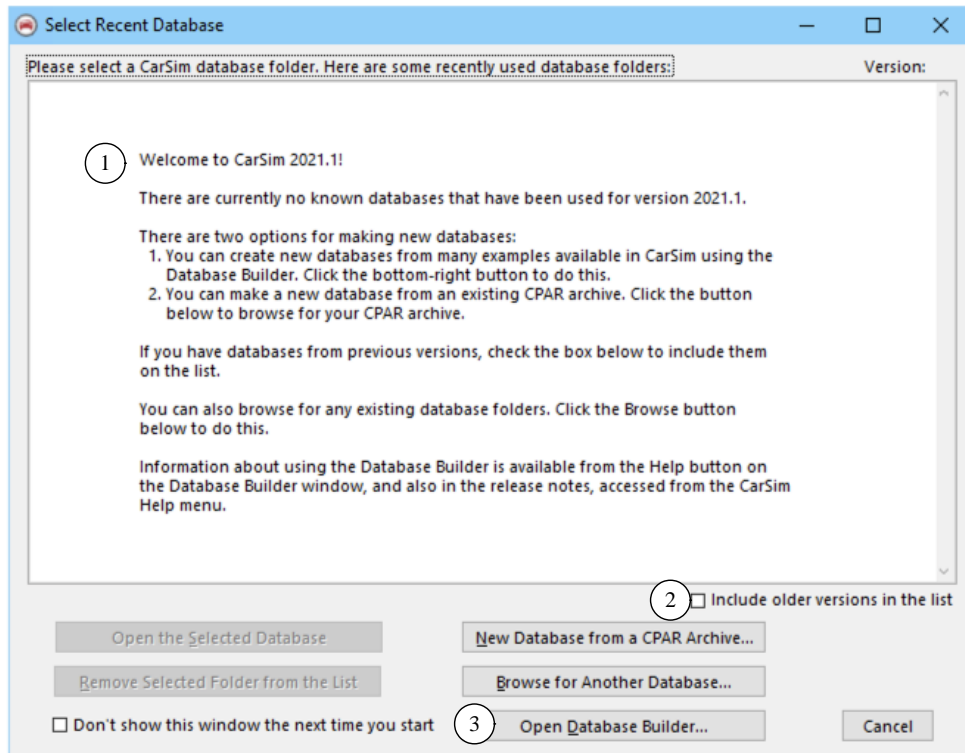
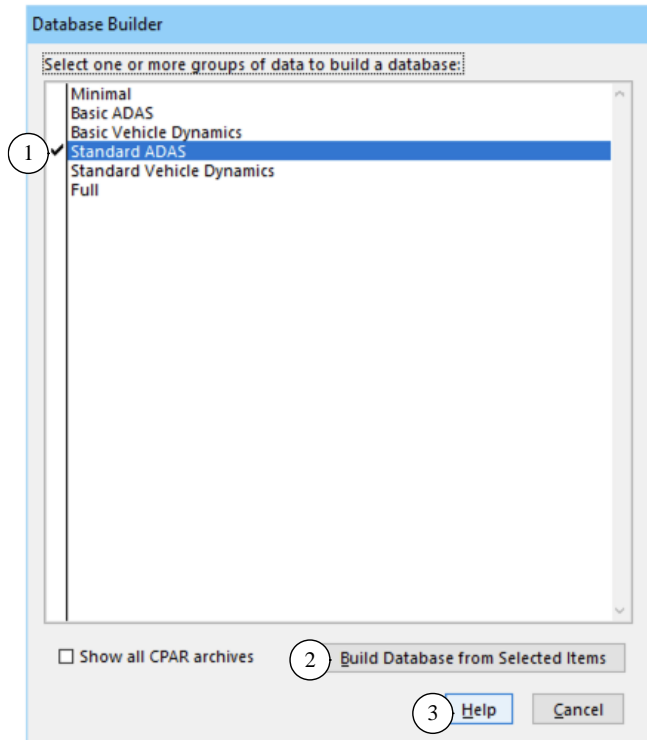
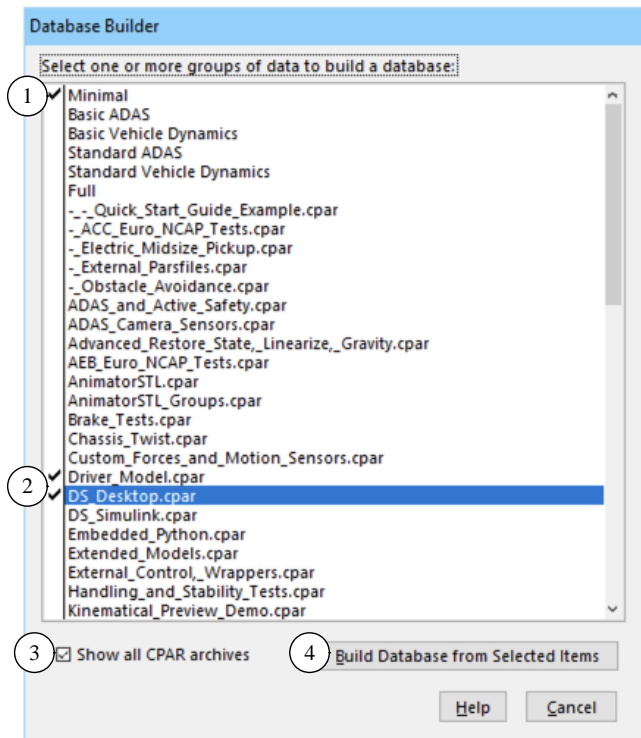

Figure 1. Recent Database window shown when opening a new version of CarSim.
Figure 2. The database builder window showing only predefined database options.
Figure 4. Display when CPARs are also shown.
When opening recent versions of CarSim, a window appears listing database folders that are known for the current version. This window (Figure 1) has been extended for 2021.1, providing access to a new tool: the Database Builder.
To access examples for 2021.1 when you start CarSim, click the button **Open Database Builder** (3) (Figure 1) to bring up the Database Builder window (Figure 2). When a group of data is selected (1), the button **Build Database from Selected Items** (2) becomes active. The **Help** button (3) opens a PDF document that describes the options.
Note Three of the first four options in the **File** menu correspond directly to three of the buttons in the **Select Recent Database** window (Figure 1).
Figure 2 shows that CarSim 2021.1 provides six predefined databases. Table 2 provides a little more information about these options.
None of the six basic options shown in Figure 2 include specialty examples, such as RT HIL systems, software development kit (SDK) examples, examples with trailers or engine mounts or frame twist, examples using external tire models, etc. To access these, and other specific categories of examples, check the box **Show all CPAR archives** (3) (Figure 4) to see the entire collection.